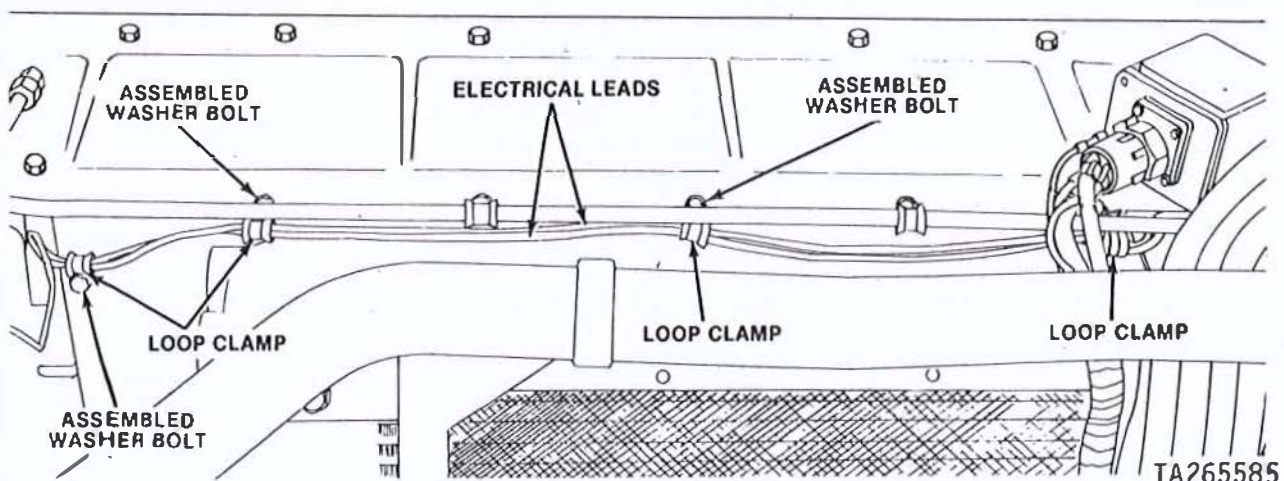

Figure 4-5. Removing or Installing Starter, Smoke and Dust Detector Electrical Cable
(1) Remove three assembled washer bolts (fig. 4-5) and three loop clamps.
(6) Install three loop clamps (fig. 4-5) on electrical leads. Secure clamps with three assembled washer bolts.